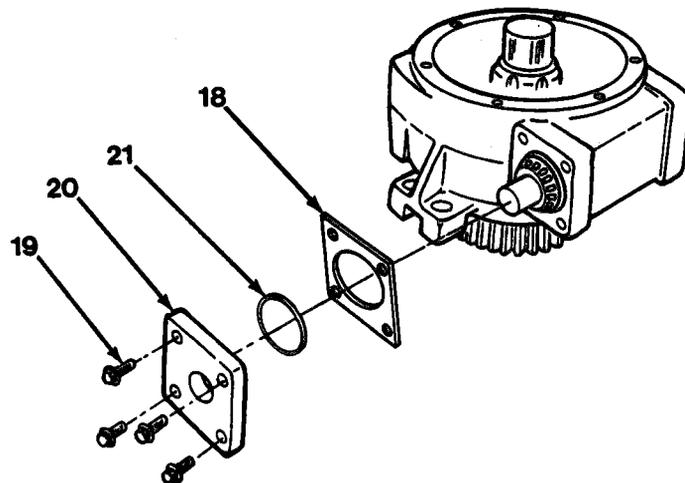

Figure 15-5
14. Install O-ring (21) and shim(s) (18) on bearing container (20, Figure 15-5).
15. Install four capscrews (19) and bearing container (20). Torque four capscrews (19) to 58 lb-ft (79 N•m).